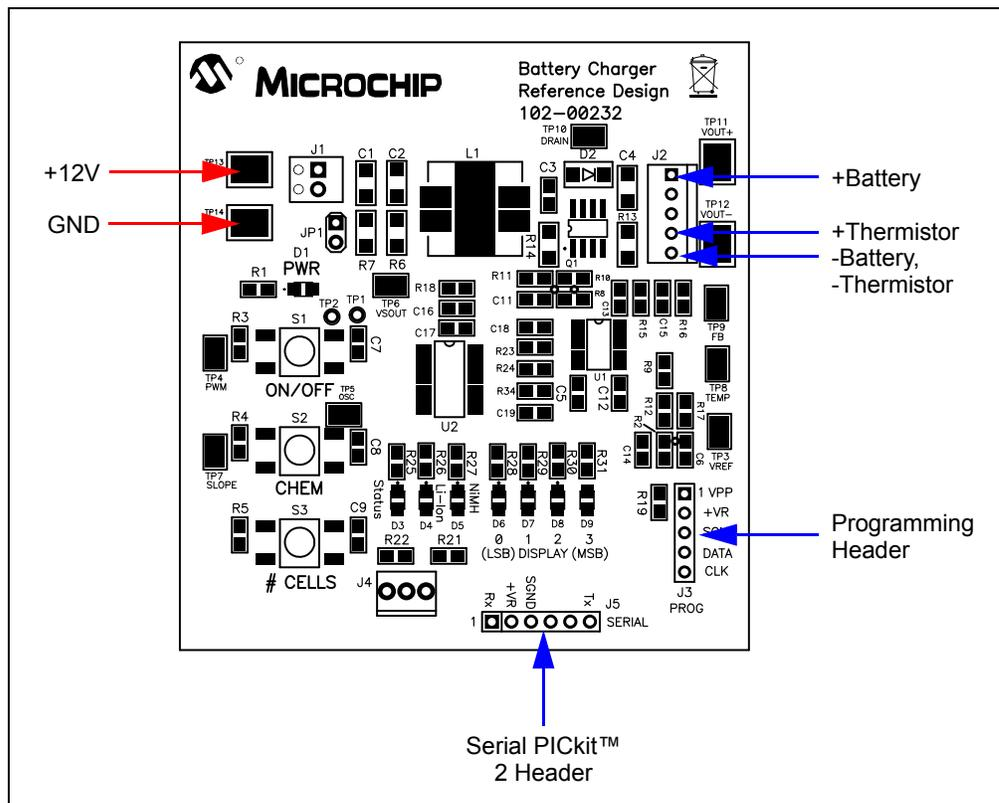

FIGURE 2-3: Setup Configuration Diagram.
2. Connect the positive side of the input source (+) to pin 1 of J1. Connect the negative or return side (-) of the input source to pin 2 of J1. Refer to Figure 2-3 below.